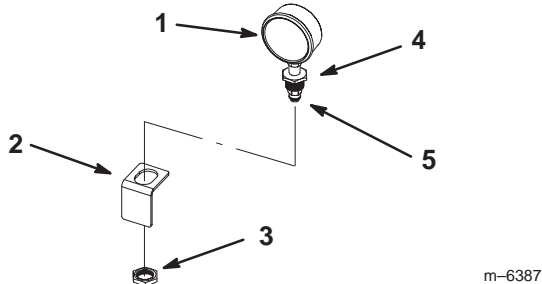

Figure 18
1. Wrap Teflon tape counterclockwise around the threads of the gauge and install the reducer fitting onto the gauge (Fig. 18).
2. Install the black plastic fitting into the reducer fitting on the gauge (Fig. 18).
3. Install the pressure gauge into the bracket under the circular opening inside the control box cover, securing it with the nut packaged with it (Fig. 18).